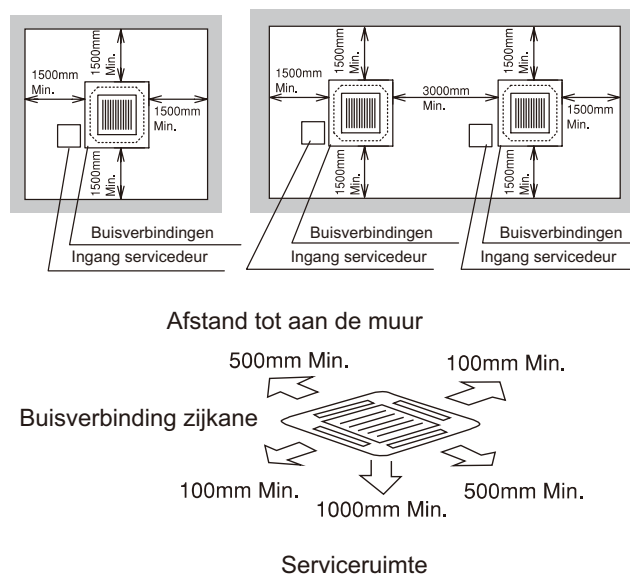

Fig.3.1 Ruimte rond de binneneenheid
- Install the indoor unit with a proper clearance around it for operation and maintenance space, as shown in Fig.3.1.